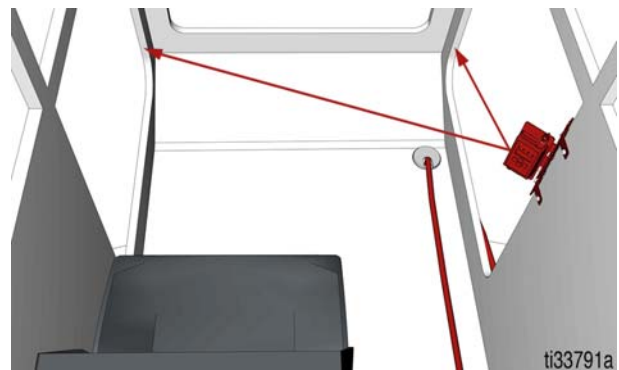

FIG. 17
3. Install the bracket inside the cab using existing holes in the cab using the hardware provided in the kit (FIG. 17).